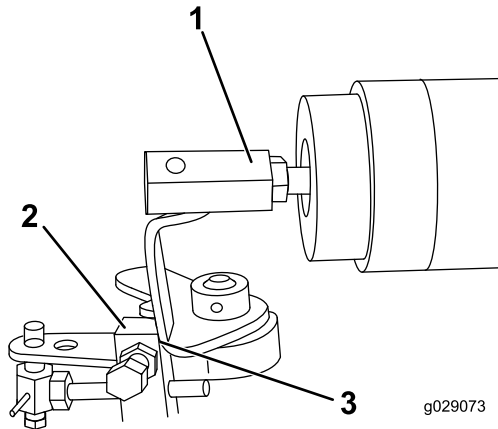

Figure 15
7. Manually push the solenoid plunger away from the fuel distributor until it is fully extended from its housing (Figure 15).
10. With the solenoid plunger electrically extended, slide the engine stop solenoid toward the fuel distributor until the engine stop lever rests against the stop on the fuel-distributor housing (Figure 15).